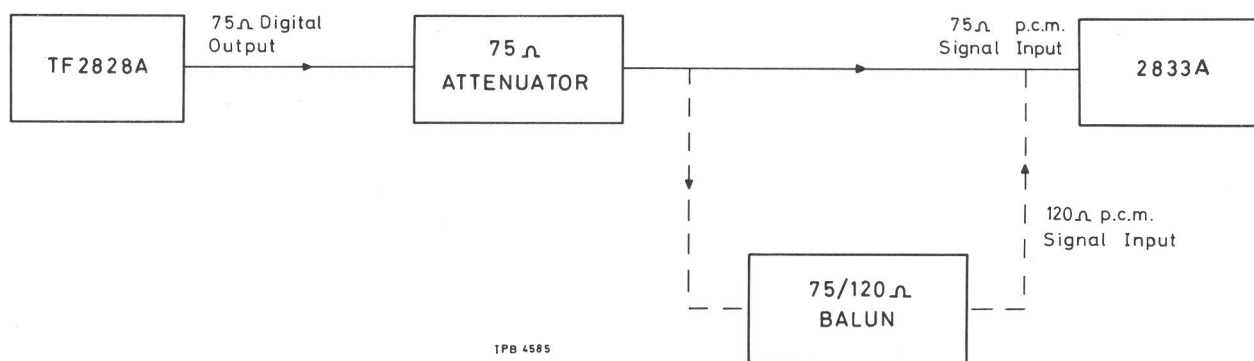

Fig. 1 Signal levels test
(8) Connect the equipment as shown in Fig. 1.